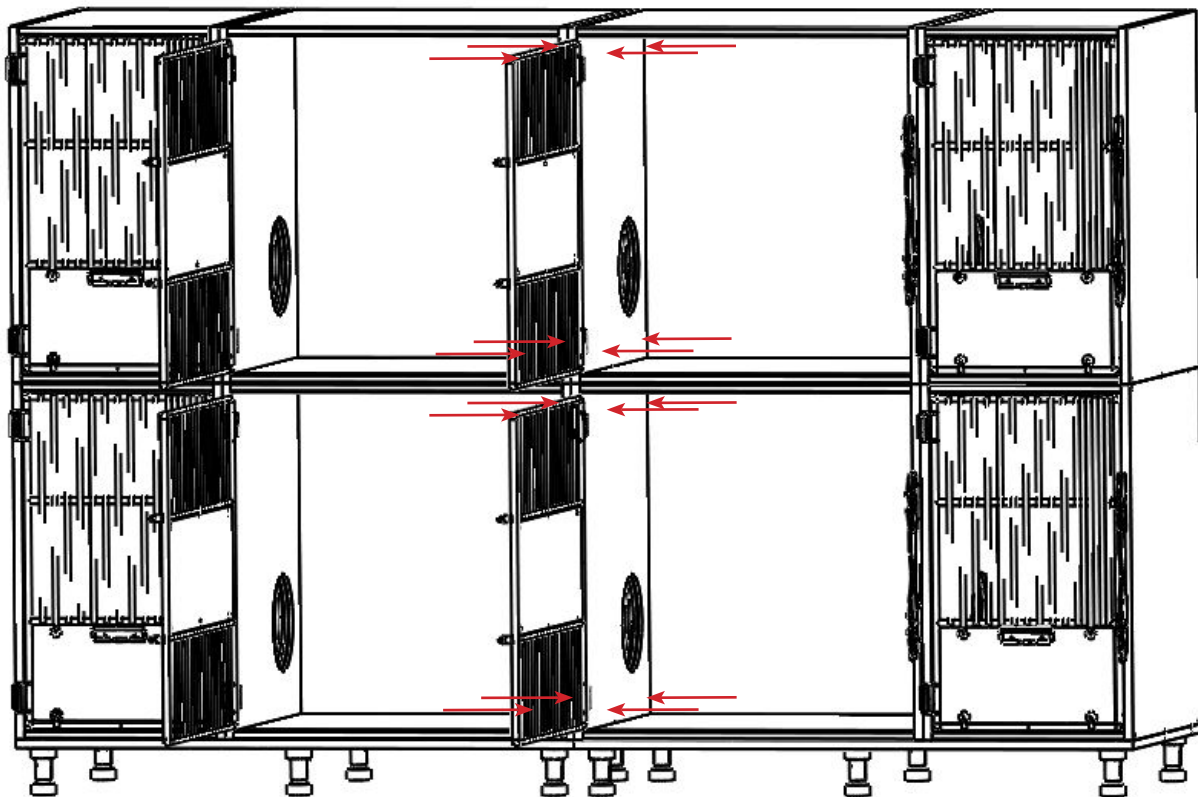

FIGURE 2.29 - Feline Comfort Suite, 4 Unit (Configurations Vary)
STEP 3: Connect the two units by inserting barrel nuts and #3 screws into each pre-drilled holes in the side panel, secure both units on both rows. See FIGURE 2.29